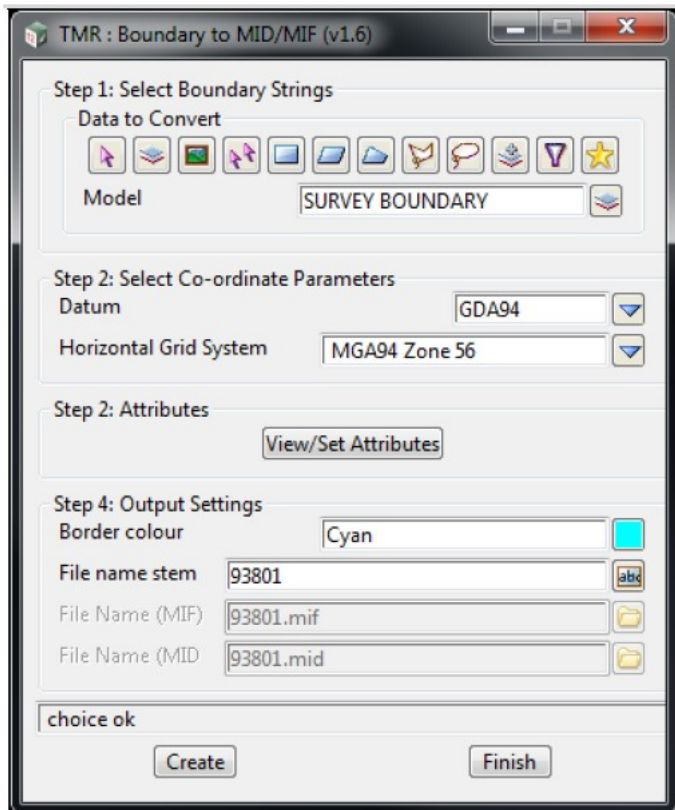

Figure 9: TMR Boundary to Mid/Mif Macro
- The Boundary to Mid/Mif macro extracts the attributes from Metadata Model and generates mid/mif files that include the survey extents from the Boundary Model along with the attributes from the Metadata. These files can then be uploaded to the Survey Location Interactive Map (SLIM) which is a record of all the Departments surveys. (Figure 9: TMR Boundary to Mid/Mif Macro)